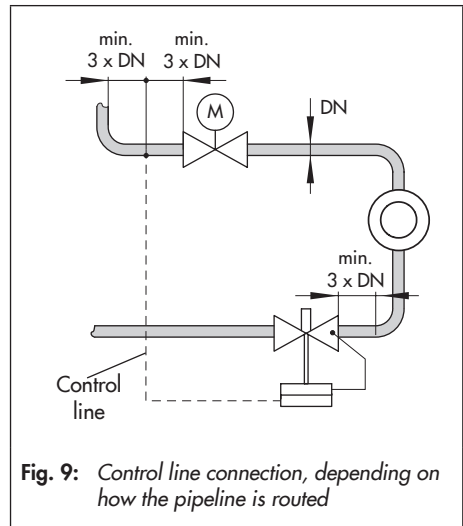

Fig. 9: Control line connection, depending on how the pipeline is routed
- Refer to installation schematics (Fig. 9) for line routing.